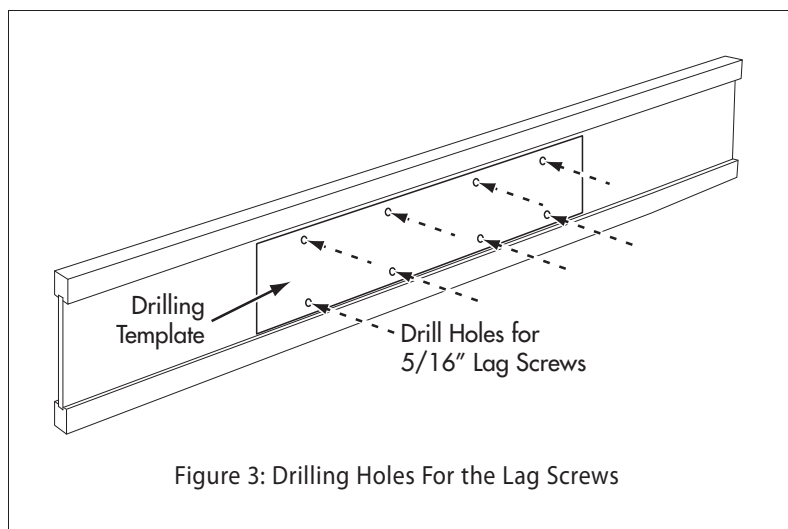

Figure 3: Drilling Holes For the Lag Screws
2. Attach the included Mounting Hole Drilling Template to the ceiling joist at the BPS-1 mounting location (see Figure 3). Make sure that the template is placed high enough so the BPS-1 cabinet will not contact the ceiling material after installation. (Contact can cause buzzing during operation.)
3. Drill eight 5/16" holes through the joist at the locations indicated on the Drilling Template (see Figure 3).